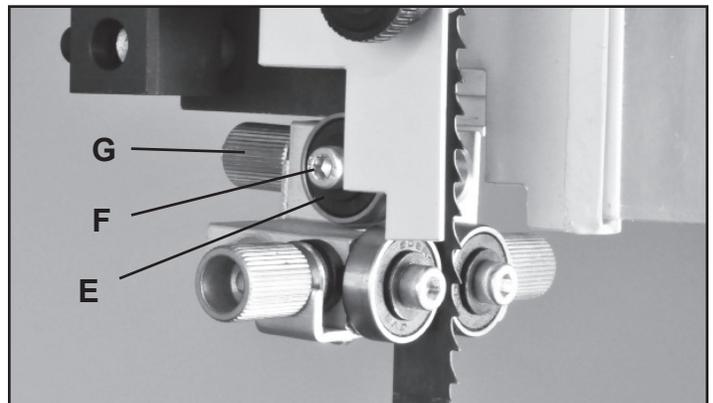

FIGURE 24
4. Adjust the rear bearing guide (Fig. 24, E) to be just clear of the back of the saw blade. Loosen the rear guide's locking Hex Cap Screw (#5G, F) and move the rear guide towards the blade by turning the rear, knurled micro-adjusting Knob (G) that pushes the end of the guide's Long Shaft (#19G). When the correct adjustment is made, lock the guide in place by tightening the hex cap screw. Fig. 24.